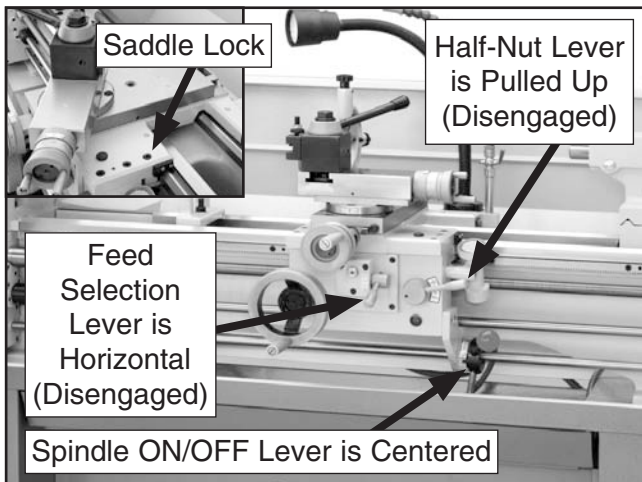
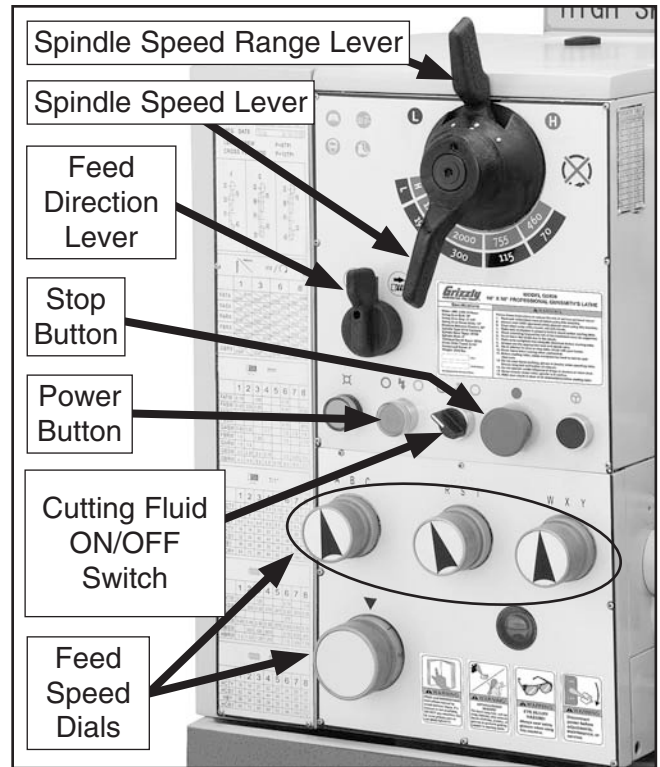

Figure 11. Apron controls.
Figure 12. Headstock controls.
5. Disengage the half-nut lever and the feed selection lever (see **Figure 11**), and make sure the saddle lock is loosened to allow the lead screw or feed rod to move the apron if required.
7. Rotate the stop button (**Figure 12**) clockwise until it pops out.
8. Move the feed direction lever (see **Figure 12**) to the disengaged middle position.
Note: As long as the feed direction lever shown in **Figure 12** is disengaged, no torque will be transmitted to the quick change gearbox or any other gear-driven component. As a result, the feed speed dials shown in **Figure 12** can be left engaged or disengaged for the test run.
10. Push the power button (see **Figure 12**), then move the spindle ON/OFF lever (see **Figure 11**) downward to start the lathe. The spindle will rotate at 70 RPM.
3. Disengage the half-nut lever and the feed selection lever (see **Figure 11**).